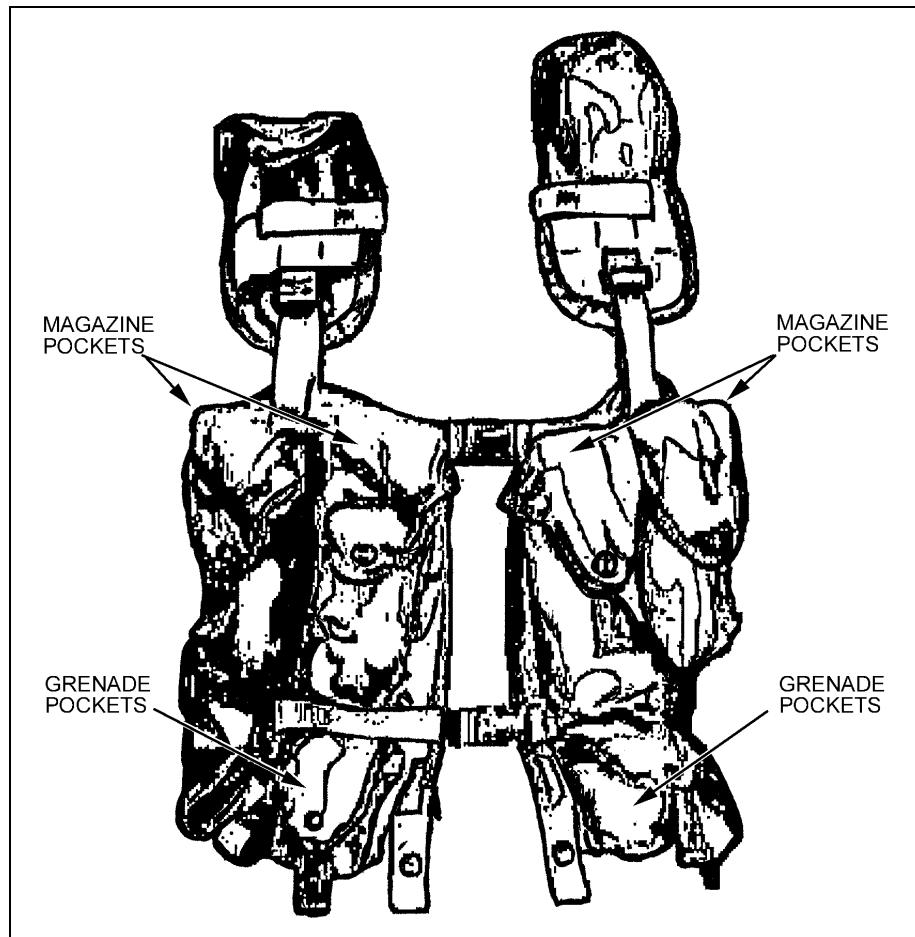

**Figure 3-1. Standard ammunition pouch.**
d. Carry hand grenades either on the ammunition pouch, using the carrying safety straps that designed specifically for this purpose (Figure 3-1), or in the grenade pockets of the enhanced tactical load-bearing vest (Figure 3-2).